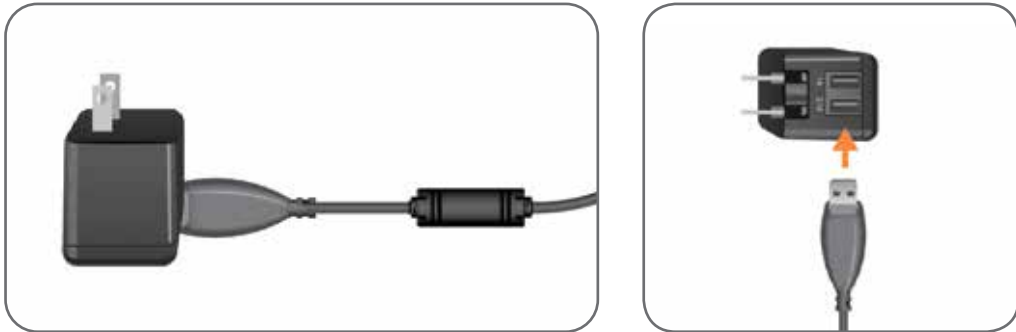

Figure 6-1: Inserting USB Charging Cable into AC Adapter
2. Insert the USB end on the magnetic charging cable into any of the two available USB ports on the AC adapter. See Figure 6-1.